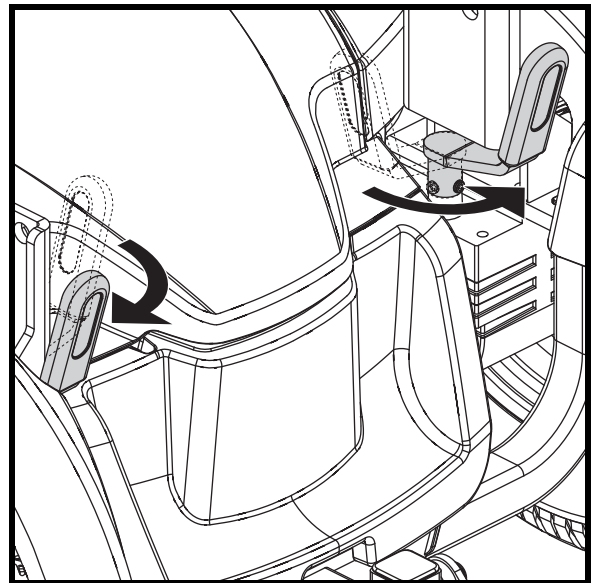

Figure 5. Freewheel Mode (Drive Disengaged)
3. Rotate both levers outward away from the seat to disengage the drive motors (freewheel mode). See figure 5.